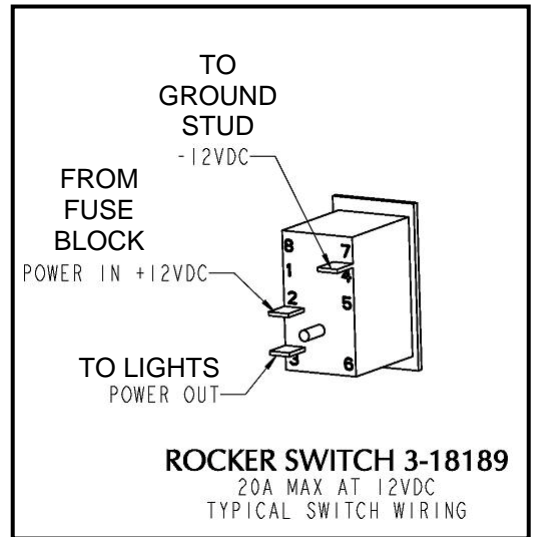

Figure 5
12. Connect switch end of wire harness (3-19281). Connect **brown** wires from front lights to rocker switch terminal 3. See figure 5. Connect the black wire from front lights to a 1/4" ground stud.
14. Locate fuse block to switches wire harness 3-19282, supplied with headliner kit. Connect **brown** wire of harness from rocker switch terminal 2 to the empty fuse block location. See figure 5.
15. Connect rocker switch terminal 7 to a 1/4" ground stud. See figure 5.
24. Connect switch end of wire harness (3-19281) to switch. Connect **yellow** wire from lights to rocker switch terminal 3. See figure 5. Connect the black wire from lights to a ¼" ground stud.
26. Locate fuse block to switches wire harness 3-19282, supplied with headliner kit. Connect **yellow** wire of harness from rocker switch terminal 2 to the empty fuse block location. See figure 5.
27. Connect rocker switch terminal 7 to a ¼" ground stud. See figure 5.